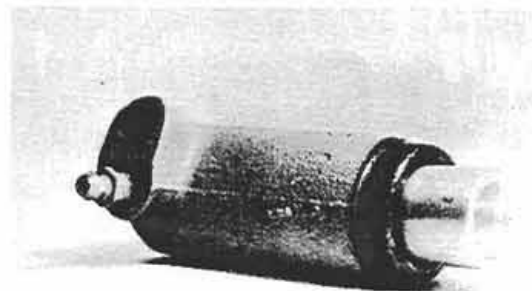

Figure 6:
2. Carefully install the piston/seal assembly into the cylinder bore. As the piston seal approaches the snap ring groove of the cylinder housing (Fig. 6), wobble the piston until the seal works into the bore.